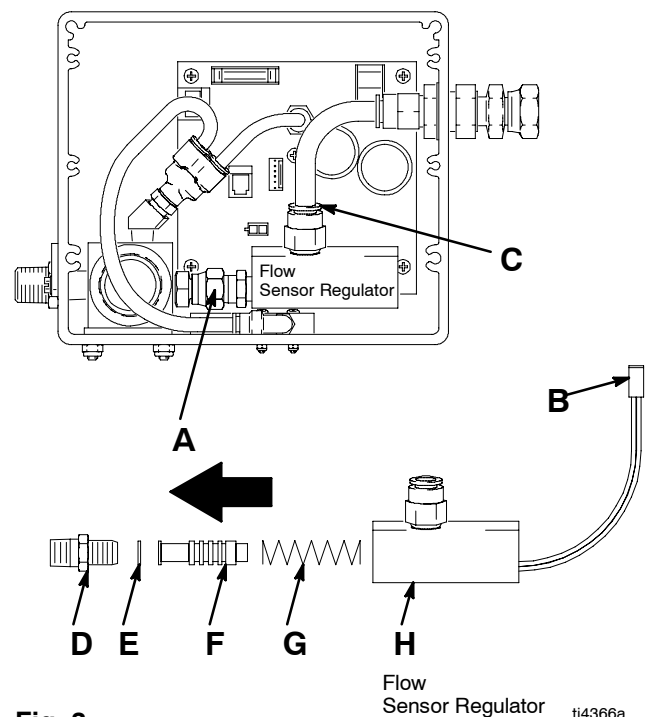

Fig. 3
1. Fig. 3. Loosen adapter (A). Pull down quick release (C) and swing out flow sensor regulator. Disconnect connector (B).
2. Remove inlet fitting (D), retainer ring (E), piston (F) and spring (G) from flow sensor regulator (H).